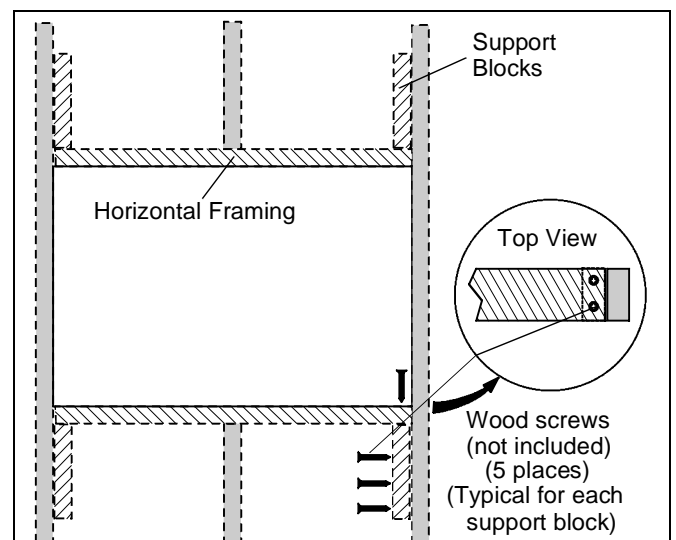

Figure 2
3. Using three #10 x 2-1/2" countersunk wood screws (not included), attach each support block to the studs (See Figure 2)
5. Attach horizontal framing to each support block with two #10 x 2-1/2" countersunk wood screws (not included). (See Figure 2)